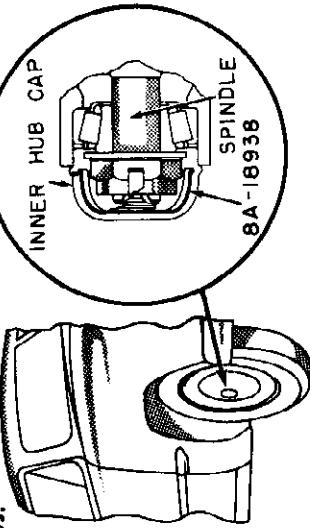

Figure 6
6. Remove inner and outer hub caps from each front wheel. Clean inner cups and spindles. Snap Static Collector Springs (Part No. 8A-18938) in inner hub caps (see figure 6). **IMPORTANT: BEND COTTER KEY AWAY FROM SPINDLE CENTER HOLE SO THAT IT WILL NOT INTERFERE WITH STATIC COLLECTOR. Replace inner and outer hub caps.**